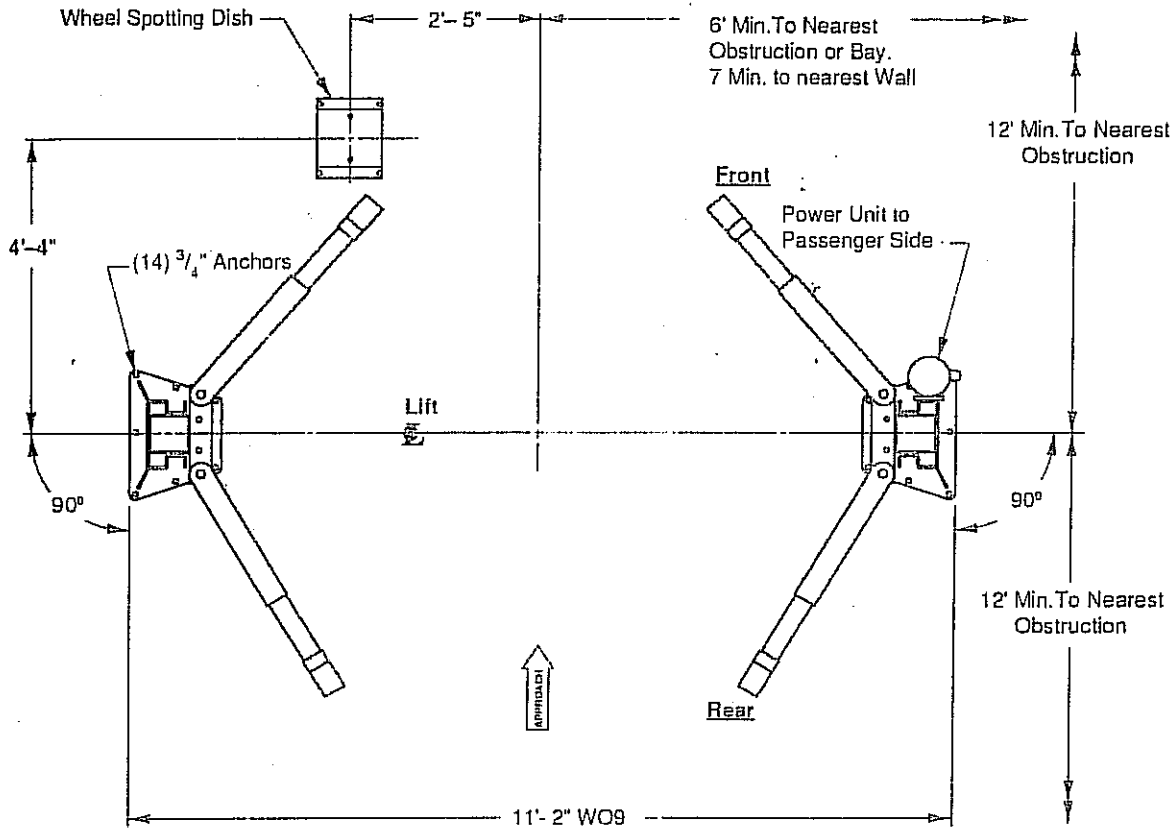

Fig. 1
- Lift Location:** Use architects plan when available to locate lift. Fig. 1. shows dimensions of a typical bay layout.
- Lift Setting:** Position columns in bay using dimensions shown in Fig. 1. Place column with power unit mounting bracket on vehicle passenger side of lift. Both column base plate backs must be square on center line of lift. Notches are cut into each base plate to indicate center line of lift. Manually raise carriage to first latch position.
- Drilling existing floor:** Drill (14)  $\frac{3}{4}$ " dia. holes  $4\frac{1}{2}$ " minimum depth in concrete floor using holes in column base plate as a guide, Fig. 1 & 2. A minimum hole spacing of  $6\frac{1}{2}$ " from another lift or other equipment and a minimum edge distance of  $4\frac{7}{8}$ " is suggested.